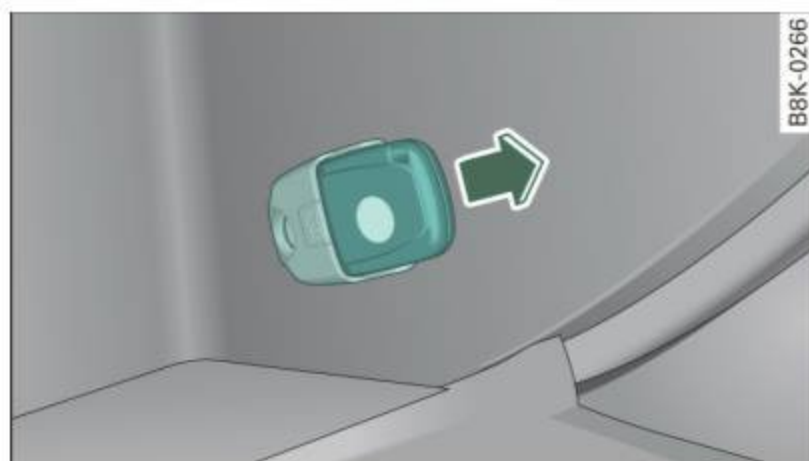

Fig. 33 Glove compartment: Adapter for emergency key
- Take the adapter for the emergency key out of the glove box ⇒ fig. 33.